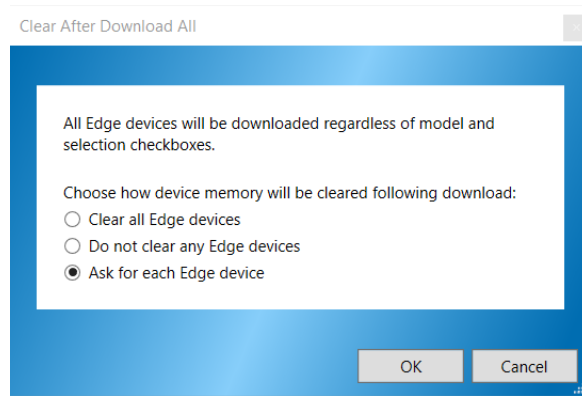

Figure 1-32: Clear After Download All dialog
6. Press the **Download** button (see **5**). DMS will report the sessions loaded and the date of completion with the most recent on top (see **6**). If using **“Selected Edge Devices Only”** mode, a dialog will appear after each device is downloaded asking if you would like to clear the instrument memory (see **7**). If using **“All Edge Devices”** mode, the **Clear After Download All** dialog will appear before downloading begins (Figure 1-32). This dialog gives you three options for how to clear device memory following downloads.